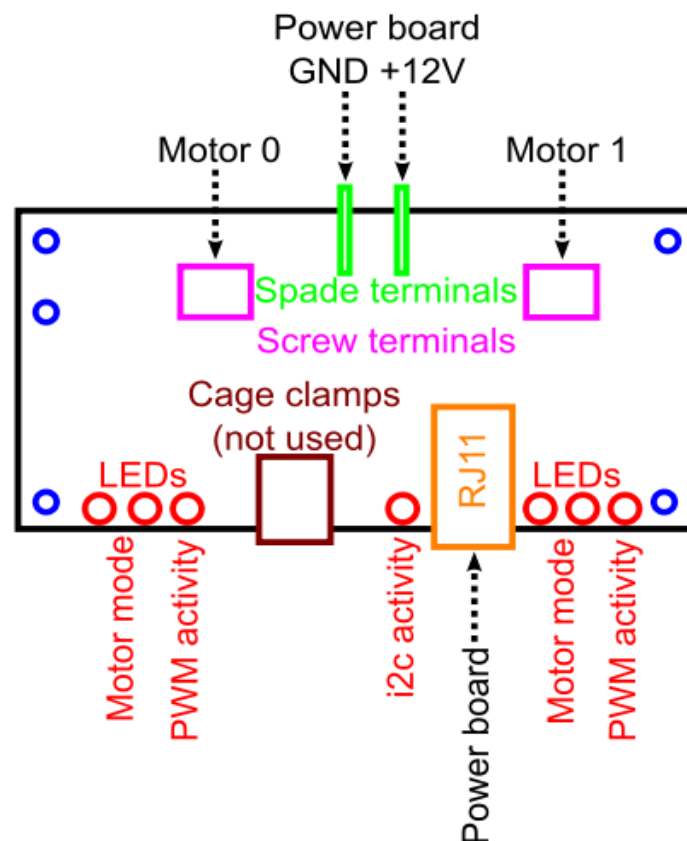

Figure 4.0 – Overview of Motor Board
- Connect MOT+ on the Power Board to the +12V spade on the Motor Board. Connect GND on the Power Board to the GND spade on the Motor Board (Figure 4.0). This provides power to the motors.